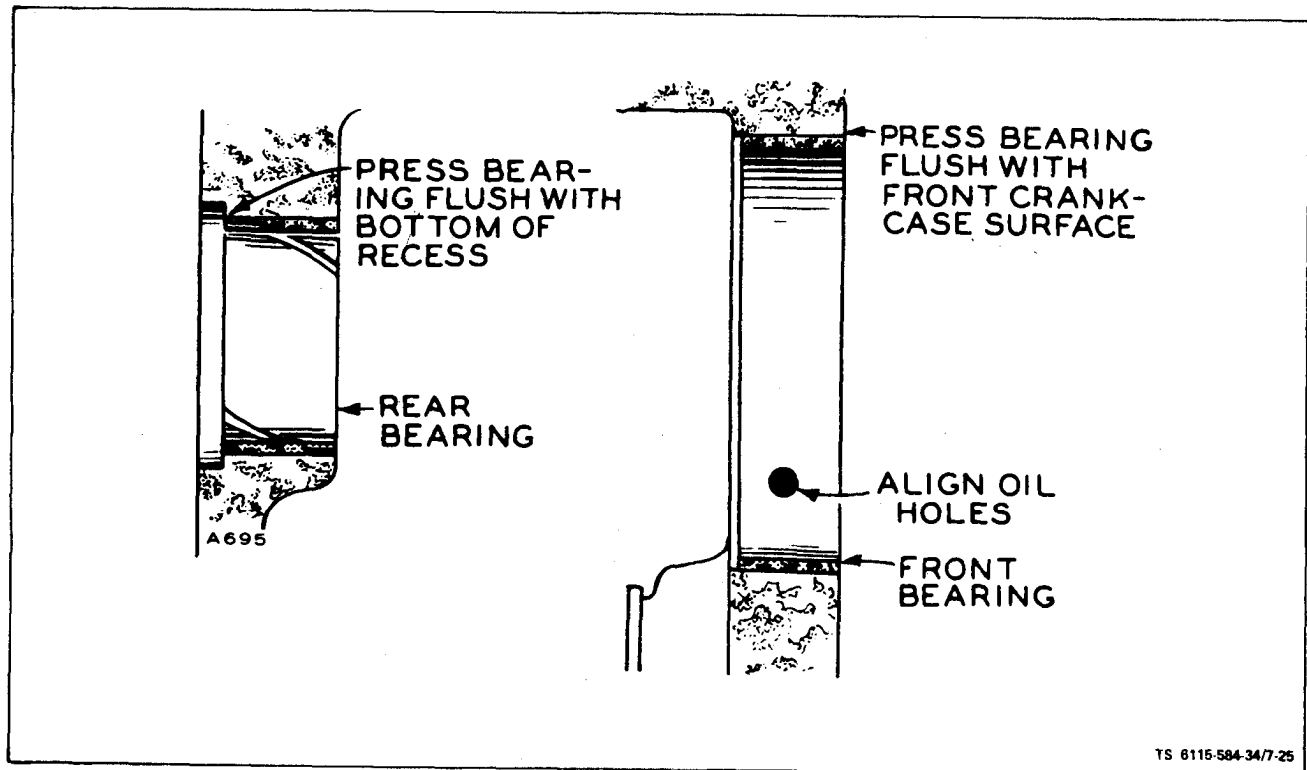

Figure 7-25. Camshaft Bearing Installation
(1) Press new camshaft bearings into place. See figure 7-25 for proper placement. Press rear bearing flush with bottom of expansion plug recess. Press front bearing in flush with crankcase front surface